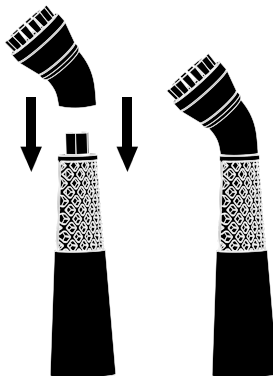

FIGURE 3
1. Firmly press accessory onto tip of Jet Nozzle. Press it on as far as possible to prevent steam leakage (See figure 3).